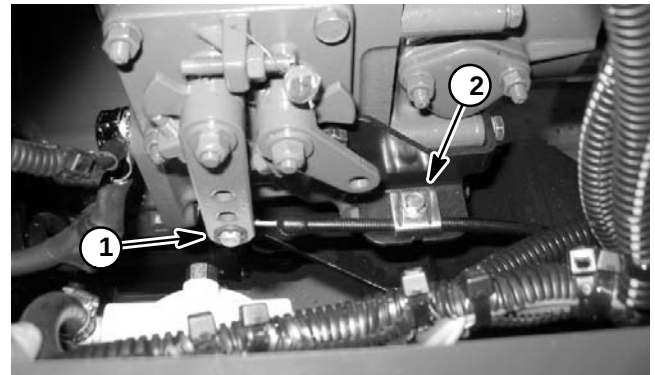

Figure 10
11. Remove throttle cable from injector pump (Fig. 10):
- B. At injector pump, loosen hose clamps and disconnect supply and return fuel hoses from the pump fittings (Fig. 10). Plug hoses to prevent leakage and contamination.